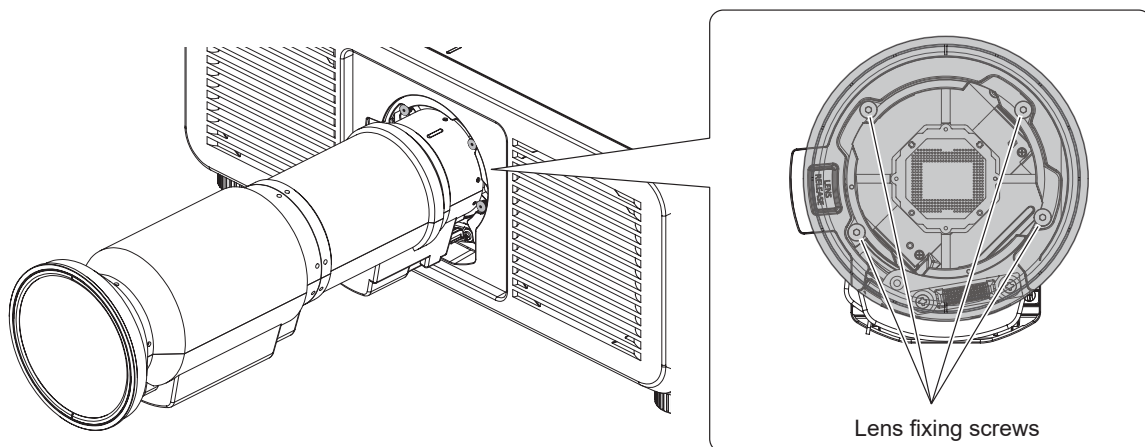

Fig. 1
- 1) Loosen the four lens fixing screws with the ball point hex driver until the screws turn freely. (Fig. 1)